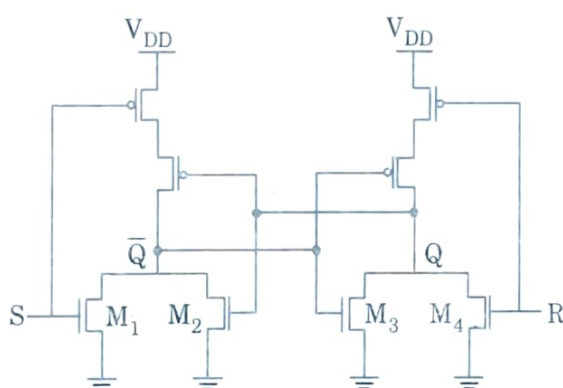

Fig. 3.17.2. CMOS SR latch circuit based on NOR2 gates.
7. CMOS SR latch based on NOR gate is shown in Fig. 3.17.2.